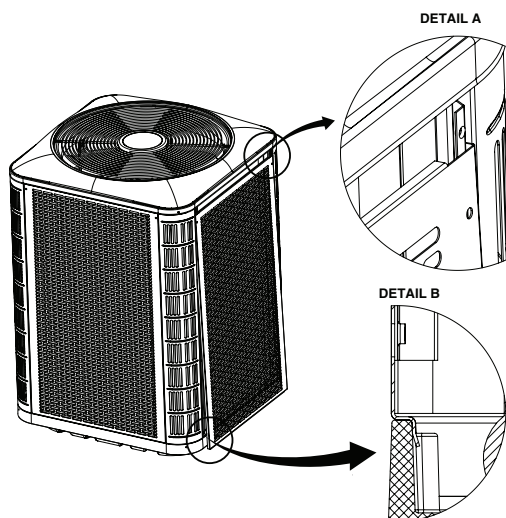

Figure 7. Panel Installation
1. Insert the top corners of side panel flanges into the corner post channels as shown in Detail A in Figure 7 \(page 8\).